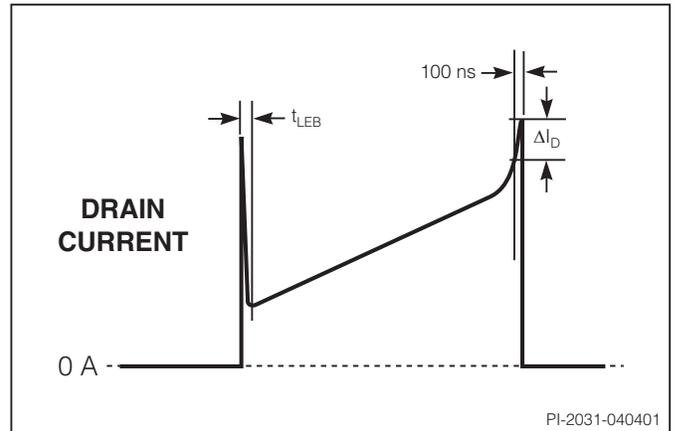

Figure 13. Example of ΔI_D on Drain Current Waveform with Saturated Transformer.
2. Related to transformer saturation – see Figure 13.